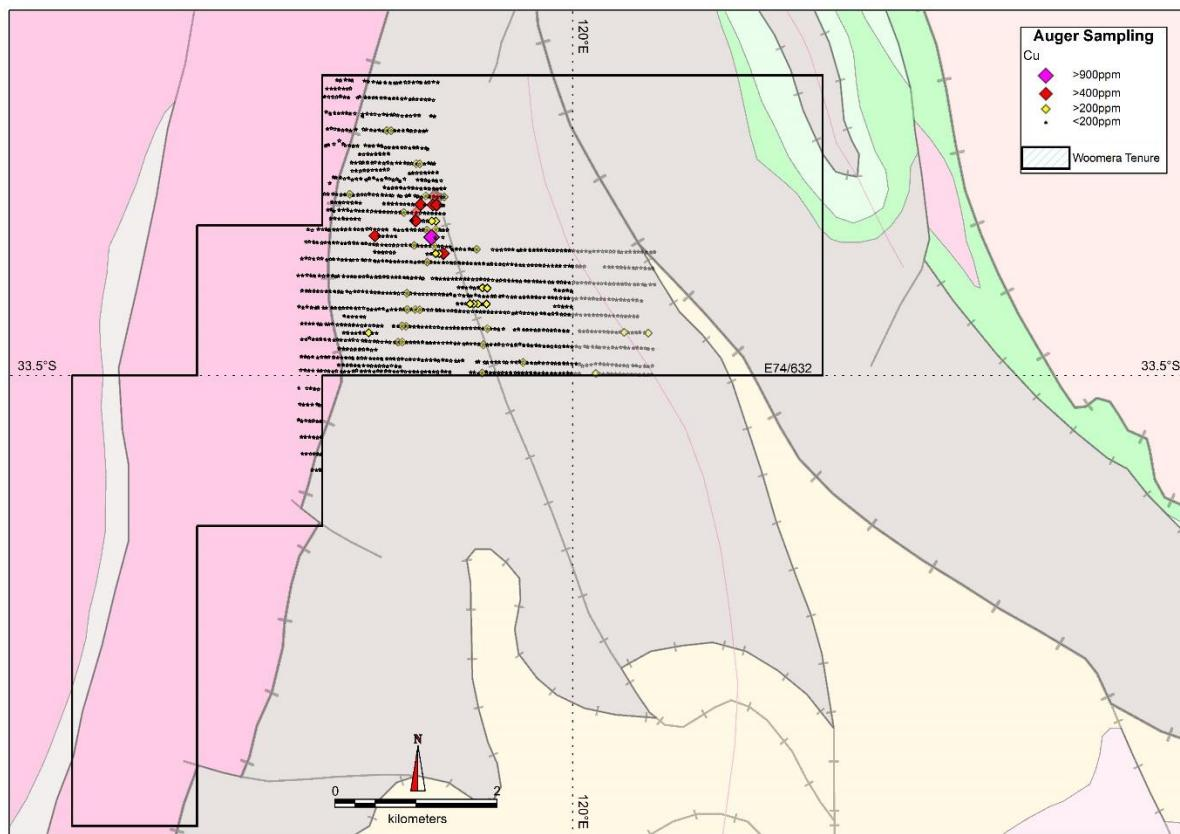

Figure 3: Mt Cattlin copper auger results on Geology (DMIRS-16/1:500,000) plan.
- An area of anomalous copper-gold-tellurium on the Mt Cattlin tenure, supported by several Cu readings of >400ppm with a peak of 964ppm, in proximity to a north-northwest trending structure (Figures 3 and 4). The copper is associated with gold values up to 93ppb and tellurium up to 1.18ppm.